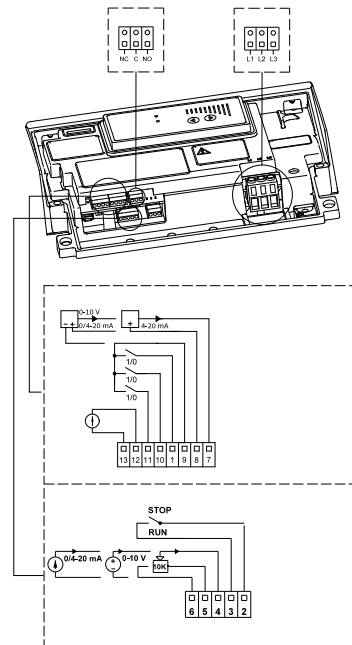

Fig. 37 AYB connector plug
- d. Remove the AYB connector plug from the first MLE motor. See fig. 37.